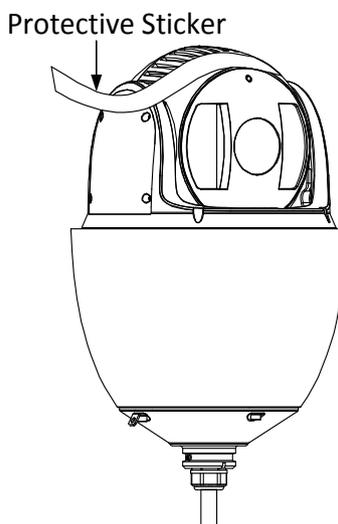

Figure 3-19 Protective Sticker
1. Remove the protective sticker as shown in Figure 3-19.